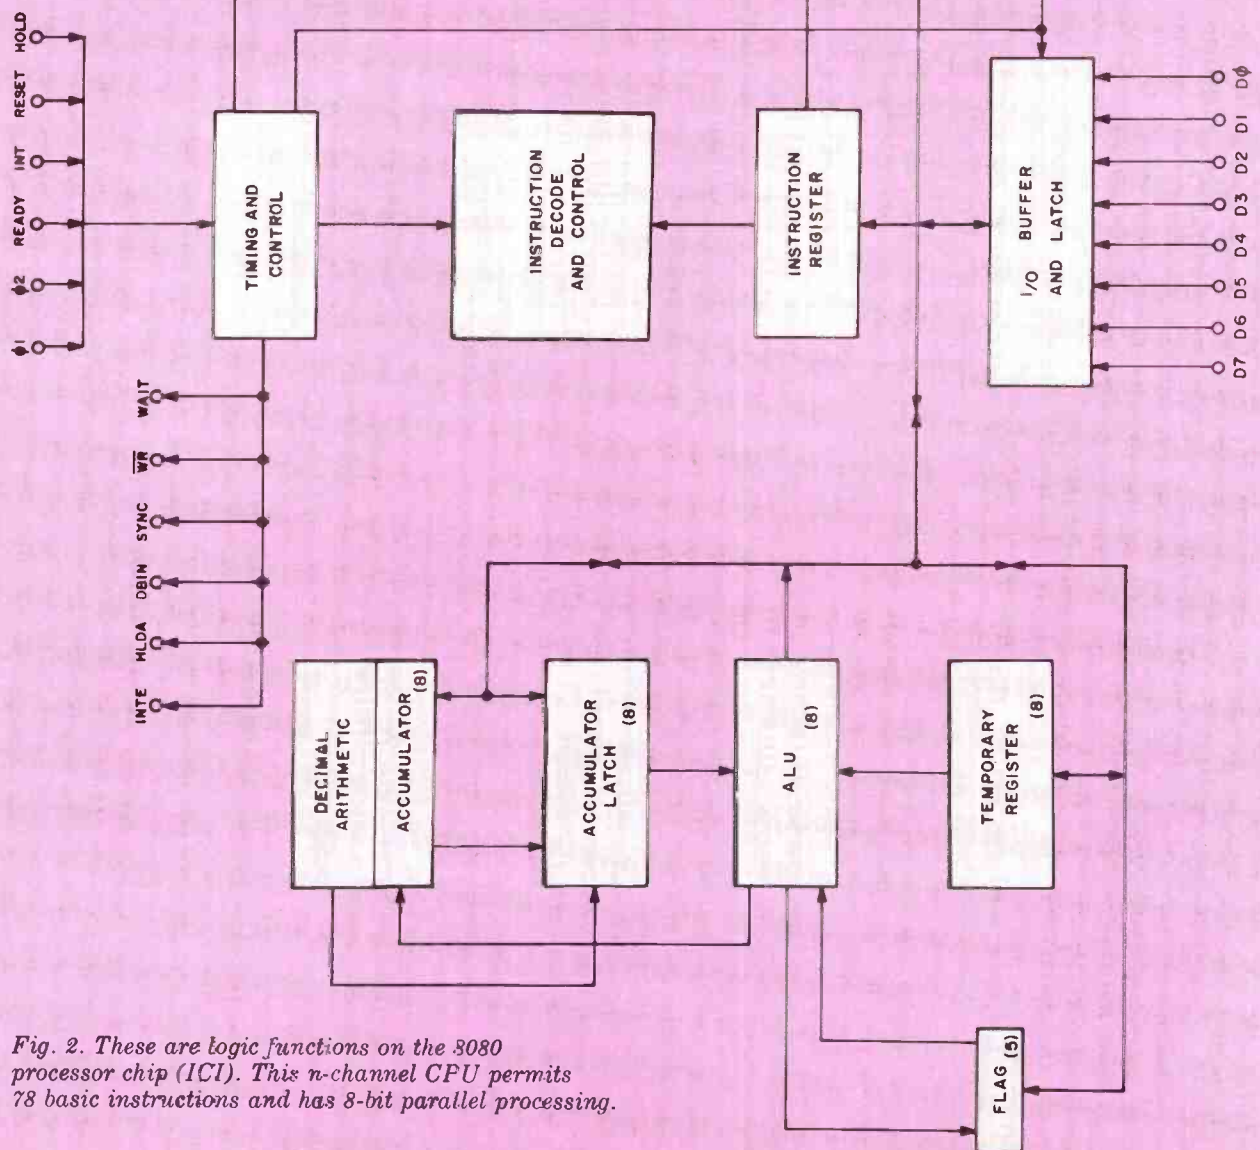

Fig. 2. These are logic functions on the 8080 processor chip (IC1). This *n*-channel CPU permits 78 basic instructions and has 8-bit parallel processing.
**CPU.** The heart of the computer is the CPU, or central processor unit. See fig. 2. The CPU performs all the calculations, generates system timing, and makes all decisions. Of particular importance are the decisions the CPU makes concerning what device should have access to the data buss. It makes these decisions by sending status information at the beginning of each computer cycle, telling the memory and the input/output what to expect for the rest of the cycle.